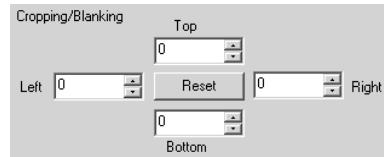

Figure 5.9. Cropping/Blanking dialog boxes
- 2) In the **Cropping/Blanking** dialog boxes (Figure 5.9.) specify which section to crop from and how many lines to crop. The *MediaMASTER* window will adjust to fit the size of the cropped image.